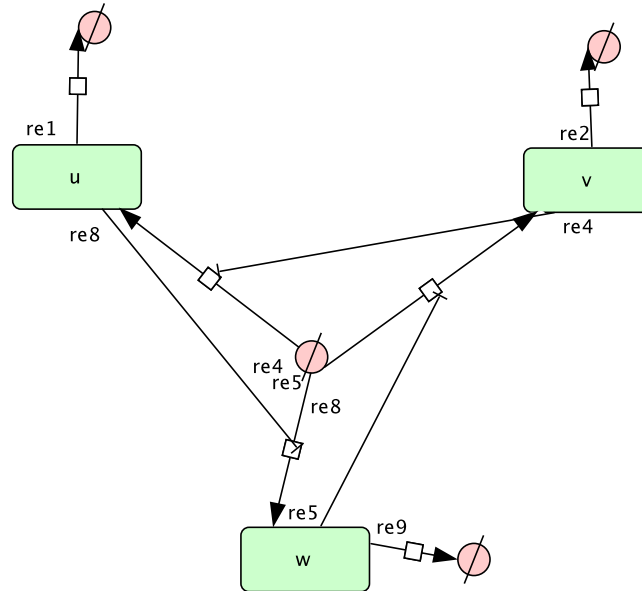

Figure 7: Repressilator network.  $u$  represses  $w$ -production,  $v$  represses  $u$ -production, and  $w$  represses  $v$ -production, and all three species degrade.
**Challenge:** Implement a repressilator-like model, by using the toggle-switch example to build a network of three repressors  $u$ ,  $v$  and  $w$  (see Figure 7). Use the same forms of repression as before, with maximum production rates of 8 (for  $\alpha_1$ ,  $\alpha_2$  and  $\alpha_3$ ), and powers of 4 (for  $\beta$ ,  $\gamma$ , and a new power,  $\phi$ ).